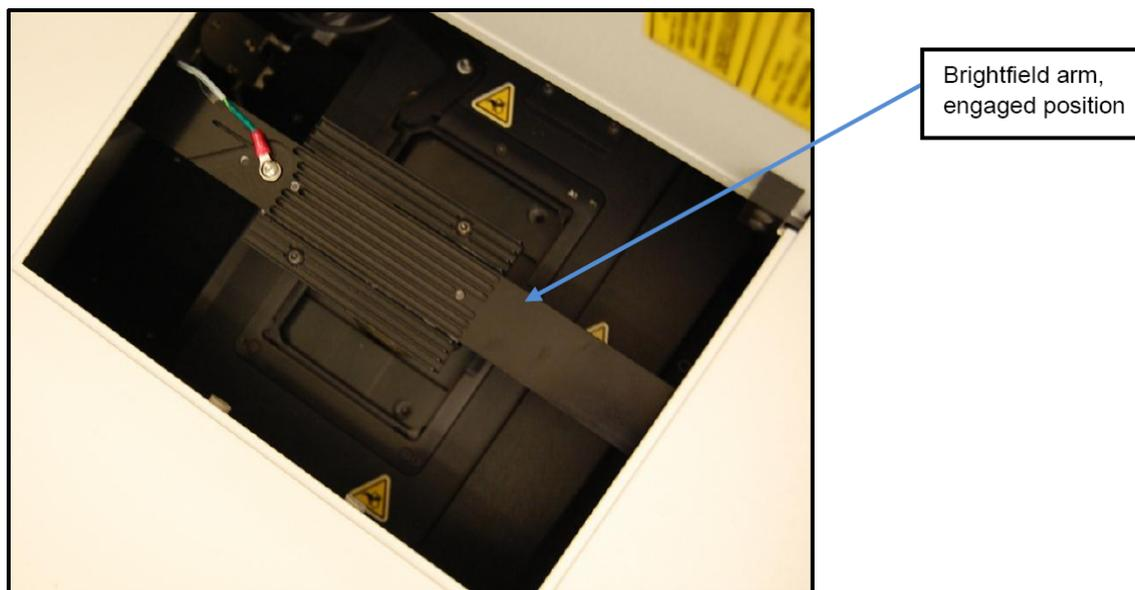
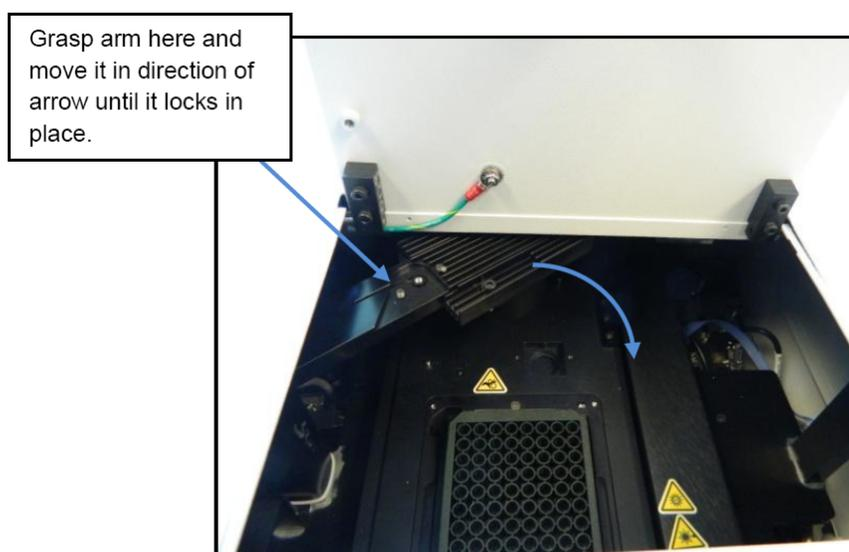

Figure 10 CellInsight™ CX7 Pro HCS Reader open service door with engaged Brightfield arm.
Figure 11 CellInsight™ CX7 Pro HCS Reader open service door with disengaged Brightfield arm.
2. If the Brightfield arm is in place (engaged), it will be in the position as shown in Figure 10. If the arm is not in this position, follow the next step to engage the arm.
3. If the Brightfield arm is not in the engaged position (Figure 11), you must physically move the arm to the engaged position. To move the arm, grasp the arm as indicated in the following image, then move the arm until it is in the engaged position (as shown in Figure 10).